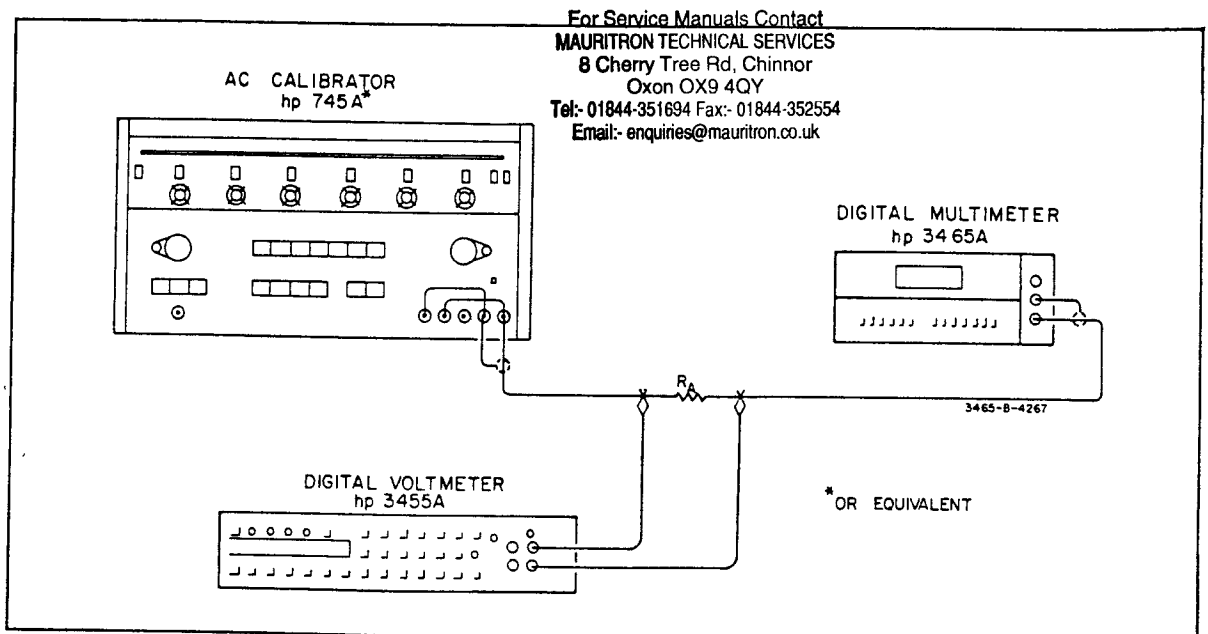

Figure 5-3. AC Ammeter Accuracy Test 200 μ A Through 20 mA Range.
a. Set the Multimeter function to ACA (\sim A) and range to 200 μ A. Connect the equipment as shown in Figure 5-3 using a discrete resistor for R_A . (To select R_A , note the
f. Reconnect the 3455A Digital Voltmeter as shown in Figure 5-3.